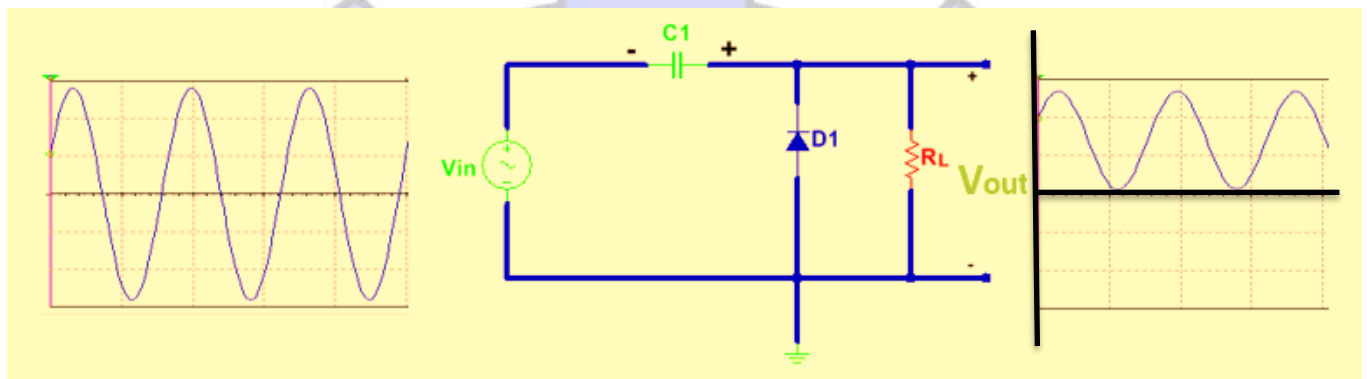
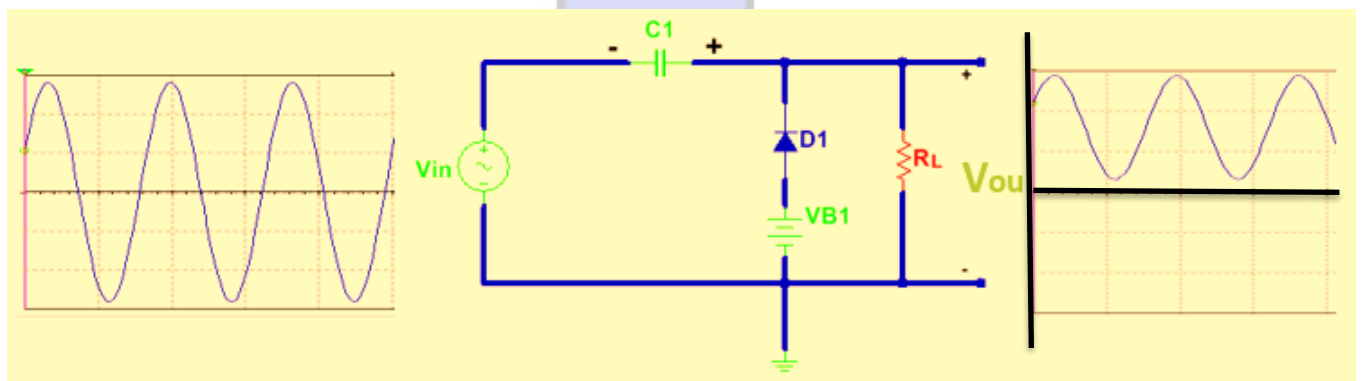

Figure 5: Unbiased Positive Clamping Circuit
Figure 6: Biased Positive Clamping Circuit
Fig.5 shows a positive diode clamper that inserts a positive DC level in the output waveform.
Biased clamping circuits produce an output waveform which is clamped by a variable level defined by a bias voltage source connected in series with the diode. If a battery of value  $V_B$  is added to forward bias the diode of Fig.5 then the clamping level of the output waveform is raised from  $V_p$  to  $V_p + V_B$  volts. Consider Fig.6, where a biased positive clamper circuit is presented. The capacitor gets charged to  $V_p + V_B$  volts assuming an ideal diode. In the positive half cycle the same C acts as a battery of  $V_p + V_B$  volts, and hence the output is  $(V_{in} + V_p + V_B)$  volts.
7. What is the effect of reducing the load resistor on the output of the clamper circuit shown in Fig.5 if the input signal is a square wave?